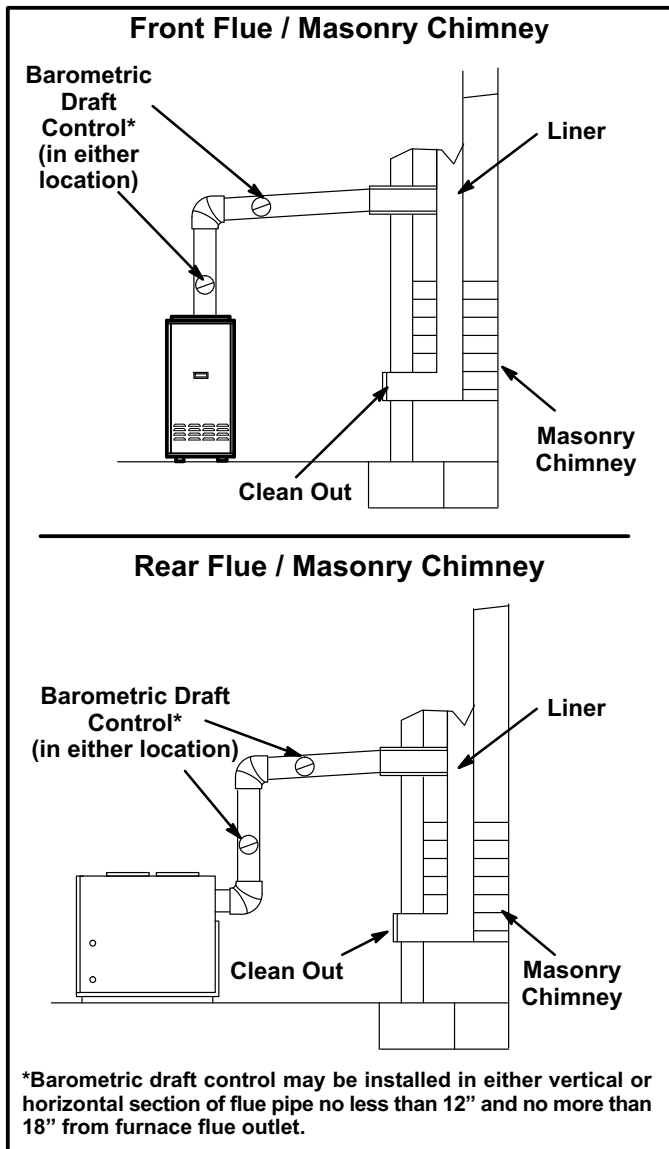

Figure 10
- 9 - The vent pipe should slope upward toward the chimney on horizontal run at least 1/4 inch (6 mm) to the foot (0.3 m) and should be supported by something other than the furnace, such as isolation hangers. See figure 10.